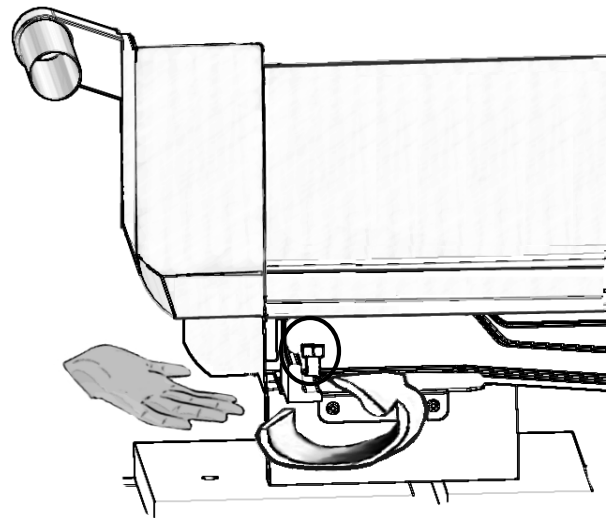

Figure 6: Removing Pallet Bolt Beneath Warming Drawer
4. After removing the pallet bolts using (2) 1/2" (13mm) wrenches (one to hold bolt at the bottom while the other is loosening the nut at the top) and discarding the wood packing block inserts, the range may be carefully tilted back on the (2) casters and removed from the pallet. Use additional help as required to remove from pallet.
- PRDS48JDSGU/C models: To access the pallet bolt located beneath the warming drawer reach up and behind the frame of the unit with one 1/2" wrench to hold the nut at the top (see *Figure 6*). Use the second wrench to loosen the bolt at the bottom. **DO NOT** remove the warming drawer.